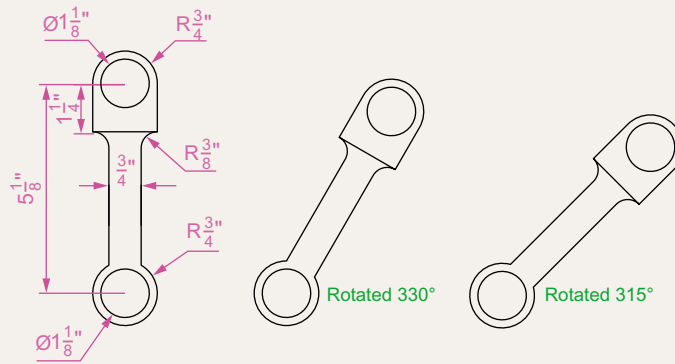

Fig. 5.53 Exercise 7
7. Construct the drawing Fig. 5.53 and make two copies using **Copy**. With **Rotate** rotate each of the copies to the angles as shown.